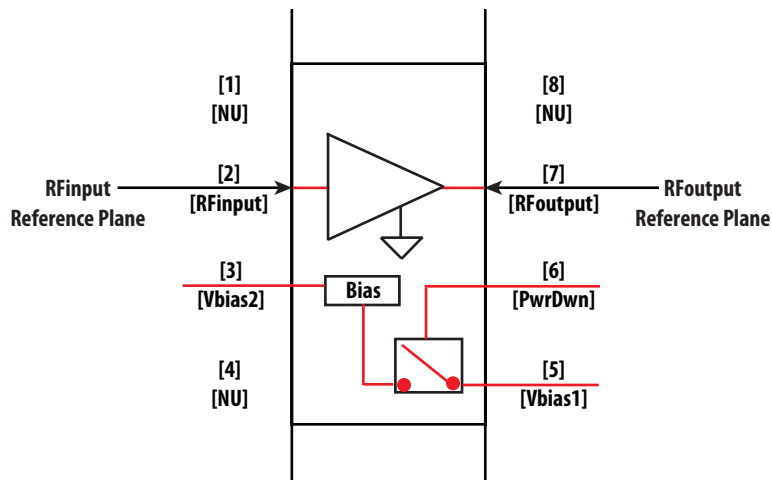

Figure 16. RFin and RFout Reference Plane
2. Measurements are conducted on 0.010 inch thick ROGER 4350. The input reference plane is at the end of the RFin pin and the output reference plane is at the end of the RFout pin as shown in Figure 16.